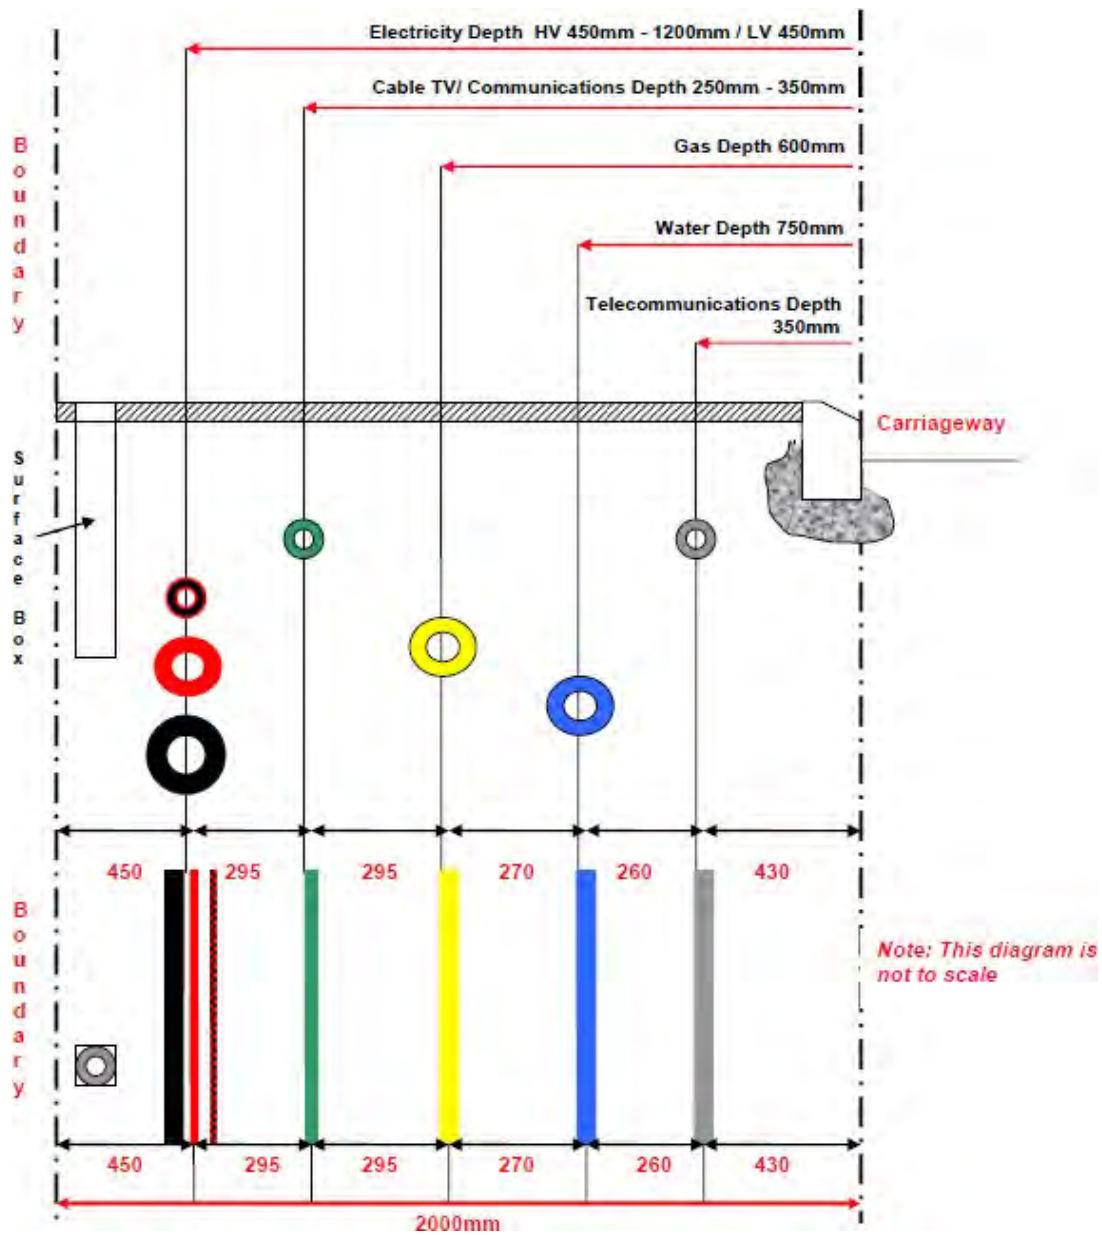

Figure 2 Recommended Positioning of Utility Apparatus in a 2 metre Footway
14. No other below ground assets should be laid directly along the line of our assets irrespective of clearance, in accordance with NJUG, see Figure 2 below for details.. No manhole or chamber shall be built over or adjacent to any AWL assets in accordance with NJUG Guidelines volume 1. Clear distances to above ground structures are set out in table 1 in section 4.